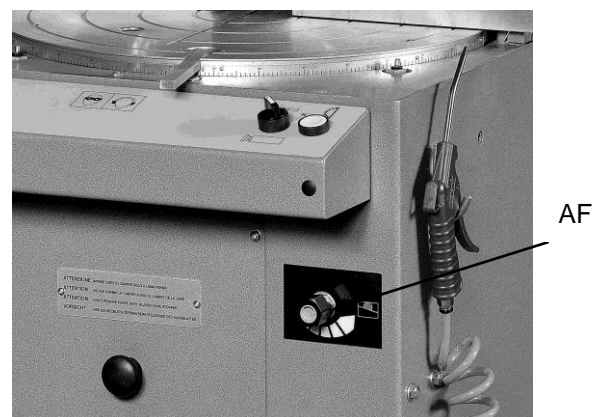

Fig 12
1. Turn selector AF (Fig.12) in clockwise direction to reduce the speed or in anticlockwise direction to increase blade's way out speed.